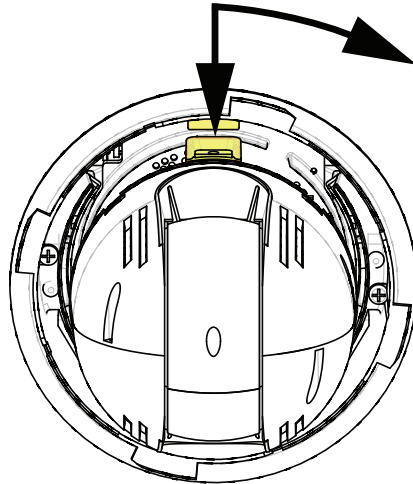

Figure 4.12 Install Camera Module and Bubble
2. Rotate the bubble clockwise until it locks in position. See *Figure 4.12, Page 83*.